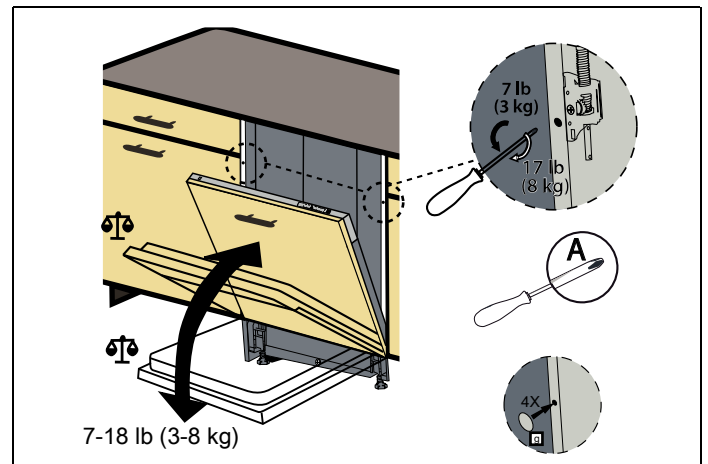

Fig. 28
8) According to the weight of the assembled wooden door, the balancing must be provided by the mechanism shown in Fig. 28.